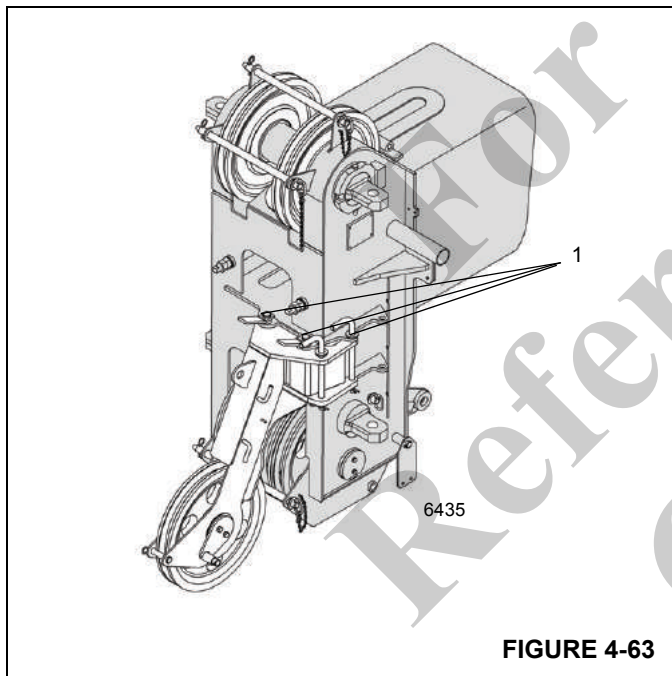

FIGURE 4-63
In the working position, the auxiliary single-sheave boom nose is positioned in front of the main boom head and is fastened with three pins (1) Figure 4-63.